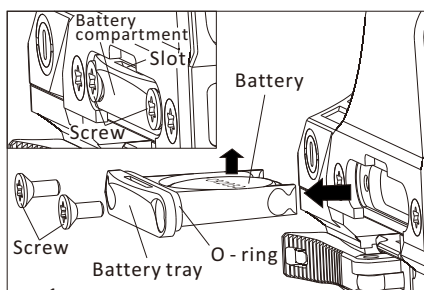

Fig 3-1
- a. Remove the battery (fig 3-1)